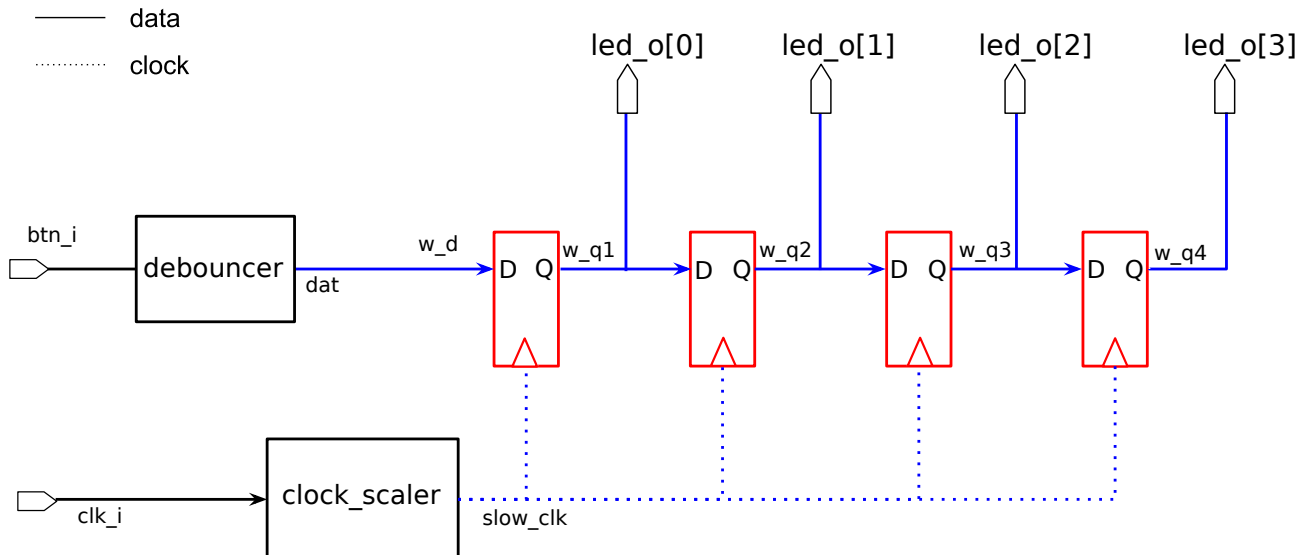

Figure 2: Top level block diagram of the assignment 1
The schematic of the top module of the shift register is shown in Figure 2. It has four instances of D flip-flops connected in series. In addition to the system clock `clk_i`, it has one user input `btn_i` for the upstream data input of the first D flip-flop.
2. Declare the signals for the flip-flops (follow the names shown in Figure 2 when labeling the signals).
4. Write down a boolean function to generate a single cycle pulse for each rising edge of `w_d`, i.e. when the signal pass from a LOW state to a HIGH state. Use the shift register signals of Figure 2.
As previously mentioned, we have programmed `BTN0` on the board to be connected to the input signal `btn_i` which in turn goes through a debouncer. The output of the debouncer, called `dat` goes to the input of the Flip-flop chain. Refer to Figure 2.
1. `hop`: During a LOW to HIGH transition of this input, the selected filter position will circular right shift by 1 (refer to Figure 2). During reset, the selection goes back to the left-most filter.